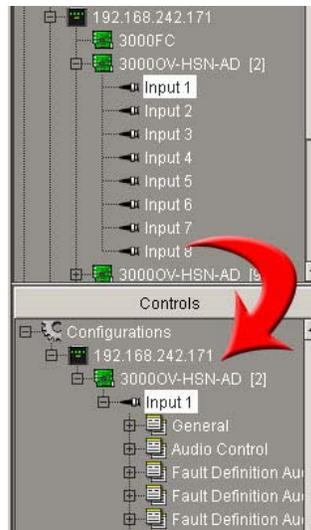

Figure 4-11: Adding a Device to the Control Selections
2. The next step is to find a control parameter to build the *Configuration Equality Informal* with. Select the desired device from the Navigation Tree and drag and drop it into the below *Controls Selection*. Figure 4-11 displays the *Control Selection* populated with a hardware device.